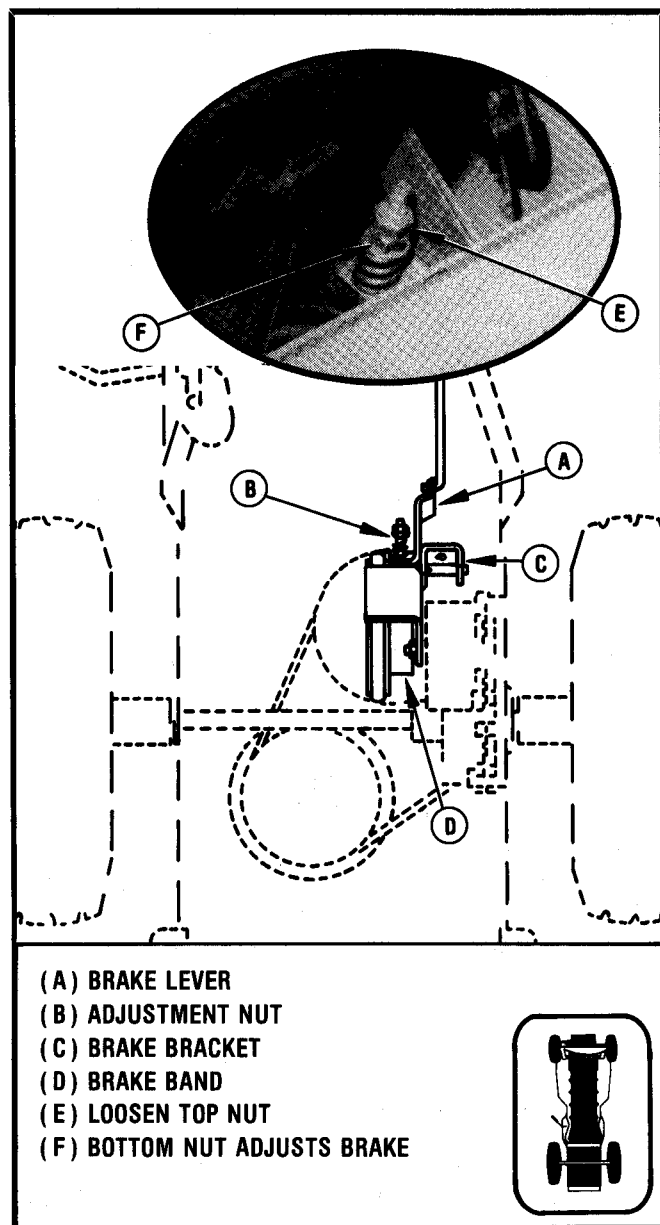

FIGURE 1-2
- a. With Speed Control Lever in "NEUTRAL", loosen the top band adjustment nut while turning the rear wheels. Use two 1/2" wrenches to free the locking nut without distorting the brake band. Tighten until the wheels just start to bind. Back off the adjusting nut 1-1/2 turns from this point. See Figure 1-2 and Diagram B.